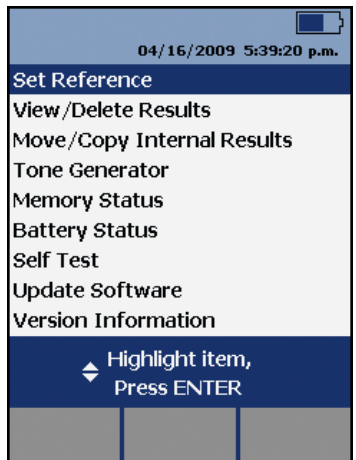

Figure 2c
- Step A. Turn the rotary switch to 'Special Functions' and choose 'Set Reference' (**Figure 2c**)